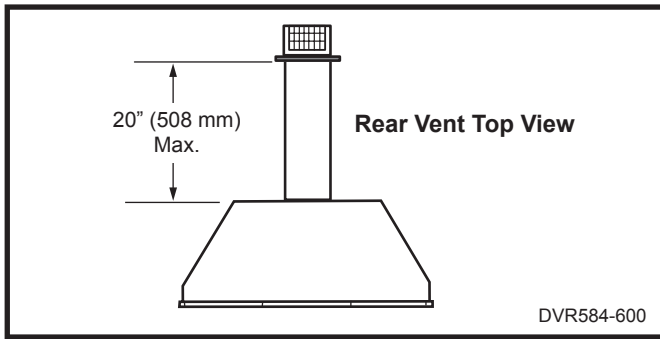

Fig. 11 Rear vent application, no elbows.
- The maximum horizontal distance between the rear of the appliance (or end of the transition elbow in a corner application) and the outside face of the rear wall is 20" (508 mm). (Fig. 11, 12)